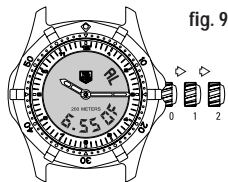

fig. 9
Select the alarm function (AL) (fig. 9).